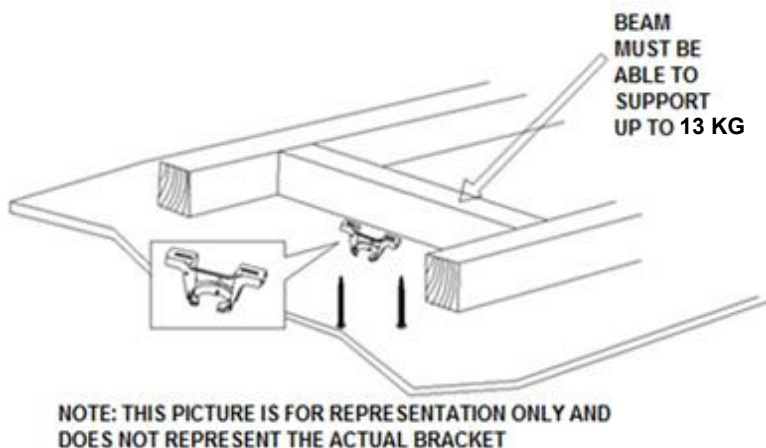

Fig. 2
- Install the hanging bracket to the ceiling joist or structure that is capable of carrying a load of at least 13kg, with two long screws provided. Ensure at least 30mm of the screw is threaded into the support. (Fig. 2)